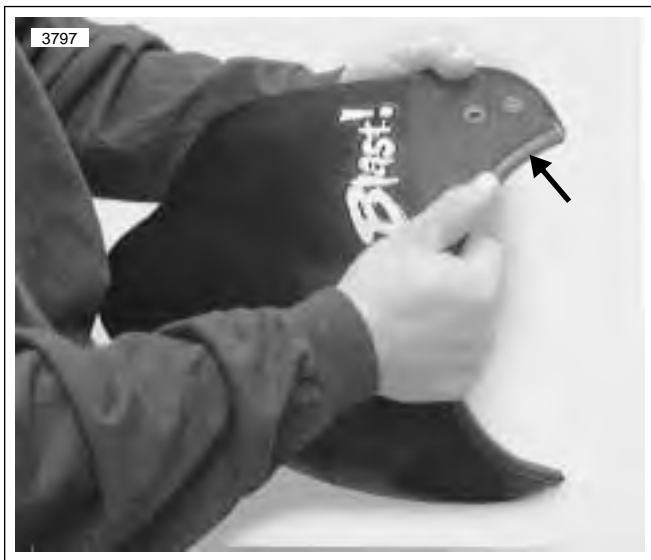

Figure 2-112. Windscreen Trim
3. See Figure 2-112. Remove windscreen trim.